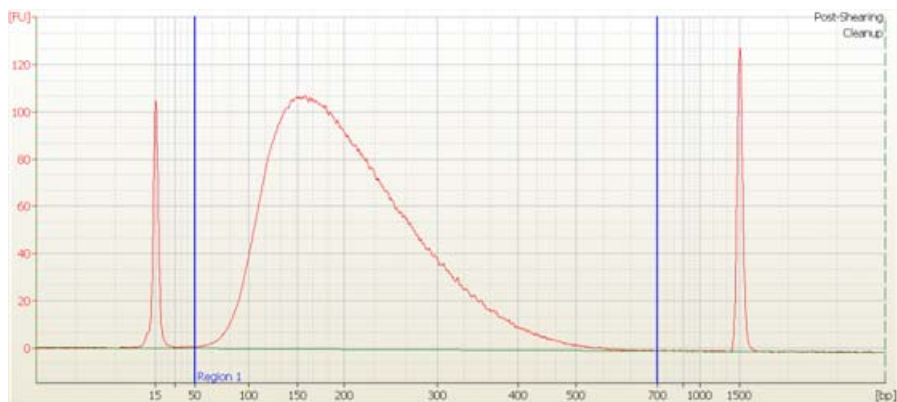

Figure 4 Analysis of sheared DNA using a DNA 1000 Bioanalyzer assay. The electropherogram shows an average peak size between 150 to 200 bp.
- 6 Verify that the electropherogram shows an average DNA fragment size of 150 to 200 bp. A sample electropherogram is shown in Figure 4.